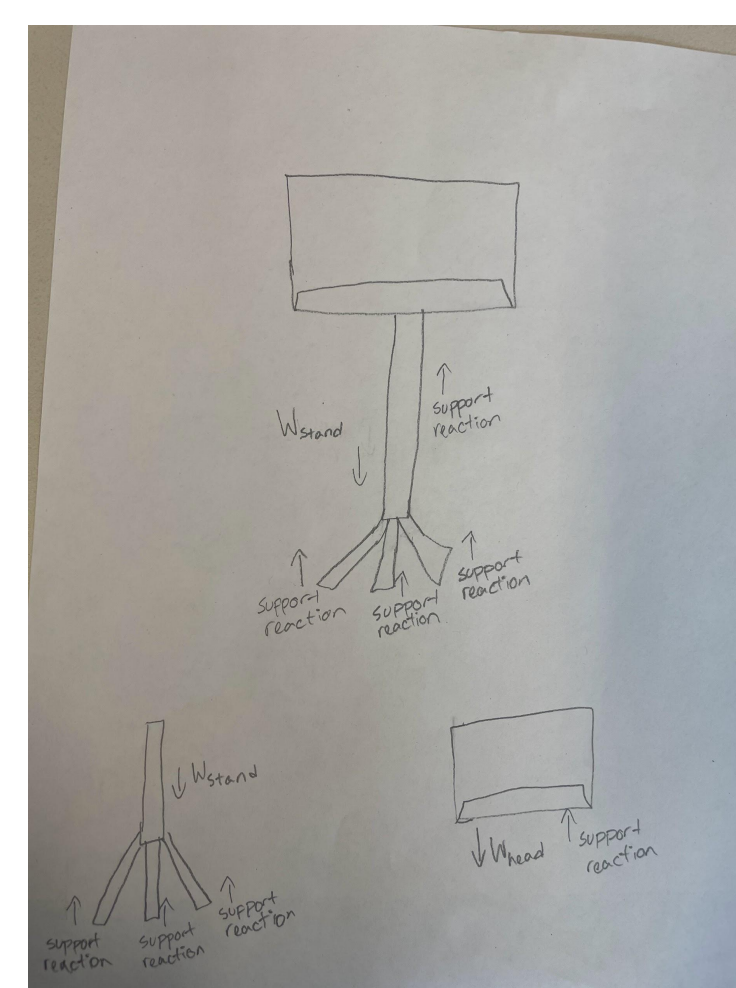

Figure 3: Free body diagram of music stand
- The forces acting on the music stand were determined (Figure 3)